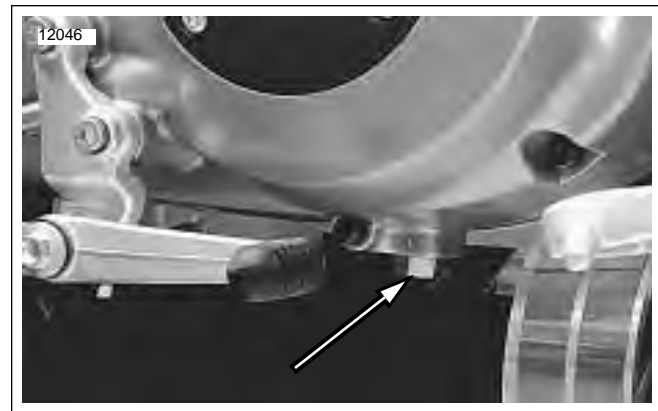

Figure 1-26. Primary Drain Plug
2. See Figure 1-26. Position a suitable container under drain plug. Remove plug and drain fluid.